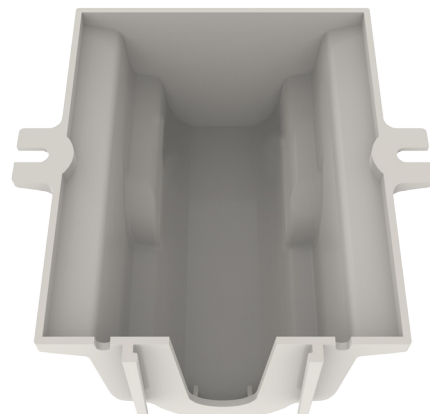

Figure 12: Interior 64394-032
2. Verify the proper orientation (Figure 12). The bottom of the enclosure has IR programming bracket holder rails and an opening for IR programming.